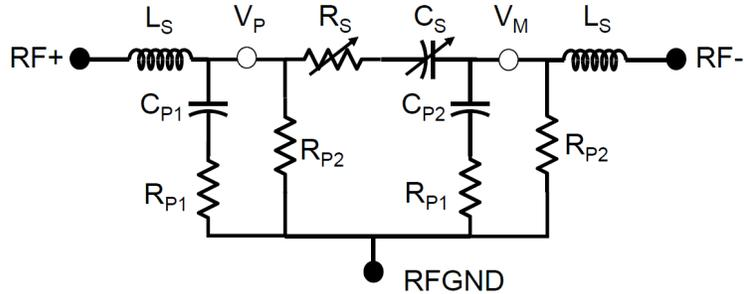
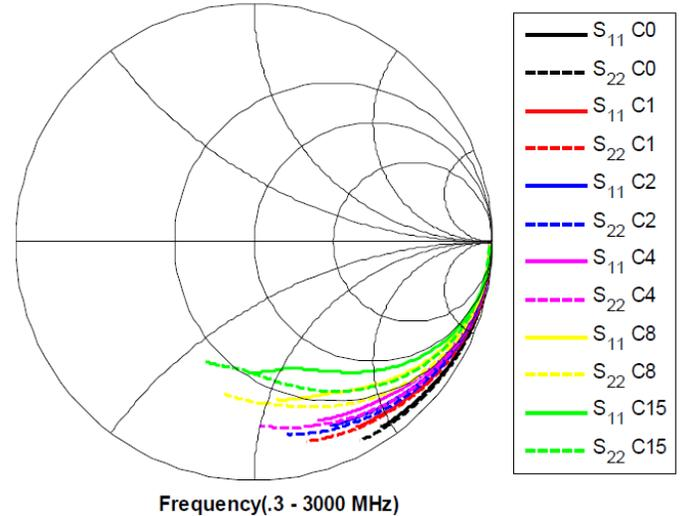
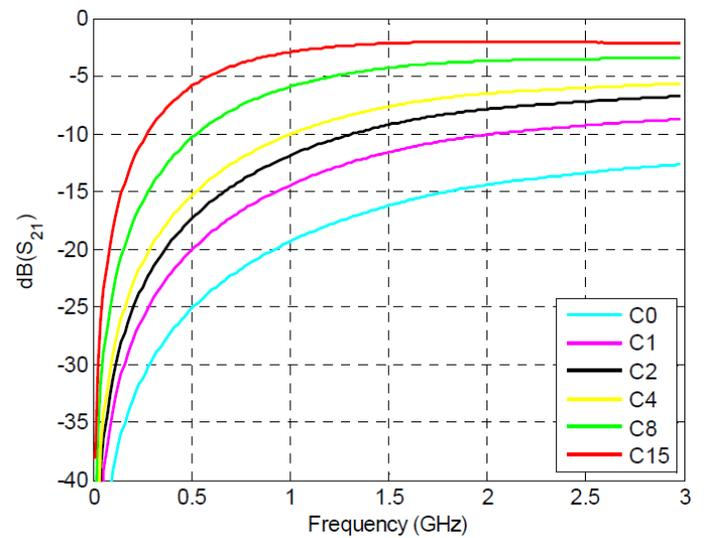

Figure 11. Equivalent circuit model schematic
Figure 14. Measured series S_{11}/S_{22} (major states)
Figure 15. Measured series S_{21} vs. frequency (major states)
2. Node voltages are defined per the equivalent circuit model schematic in Figure 11. When the DTC is used as a part of reactive network, the impedance transformation could cause the internal RF voltages (V_P and V_M) to exceed the peak operating RF voltage even with the specified RF input power levels. For operation above +20 dBm (100 mW), the complete RF circuit must be simulated using the actual input power and load conditions, and the internal node voltages (V_P and V_M in Figure 11) monitored to not exceed 30 V_{PK} .
Figure 14 and Figure 15 show S_{11} and S_{21} for the series configuration. S_{21} includes mismatch and dissipative losses and is not indicative of tuning network loss. To simulate the tuning network loss, use the equivalent circuit model in Figure 11.
When the DTC is part of a reactive network, impedance transformation can cause the internal RF voltages (V_P and V_M in Figure 11) to exceed the peak operating RF voltage. To ensure that neither V_P nor V_M exceed $30 V_{PK}$, simulate the complete RF circuit using actual input power and load conditions.